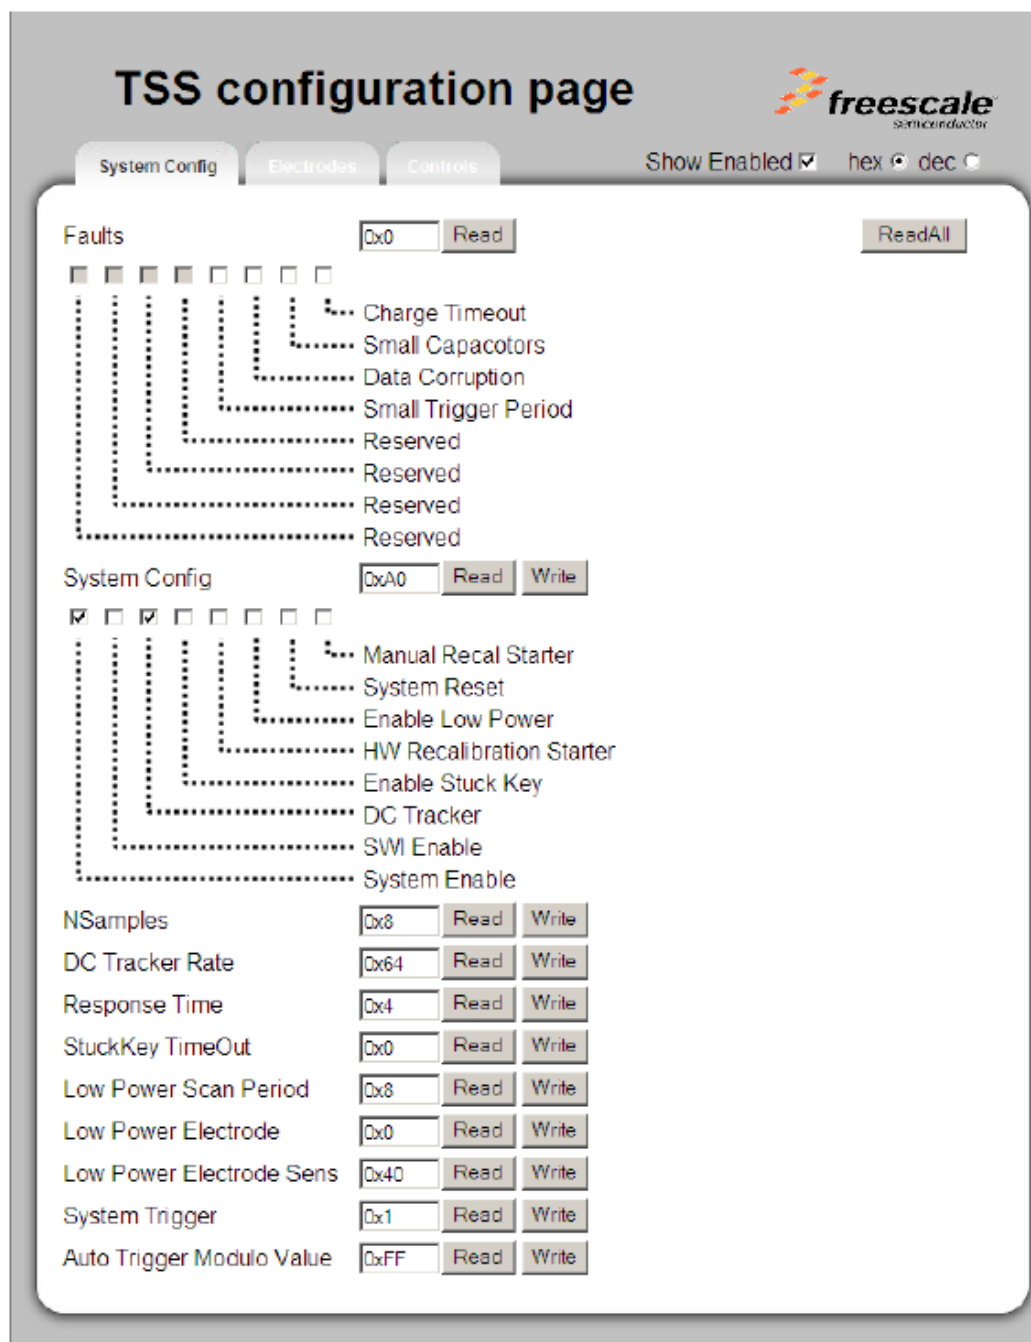
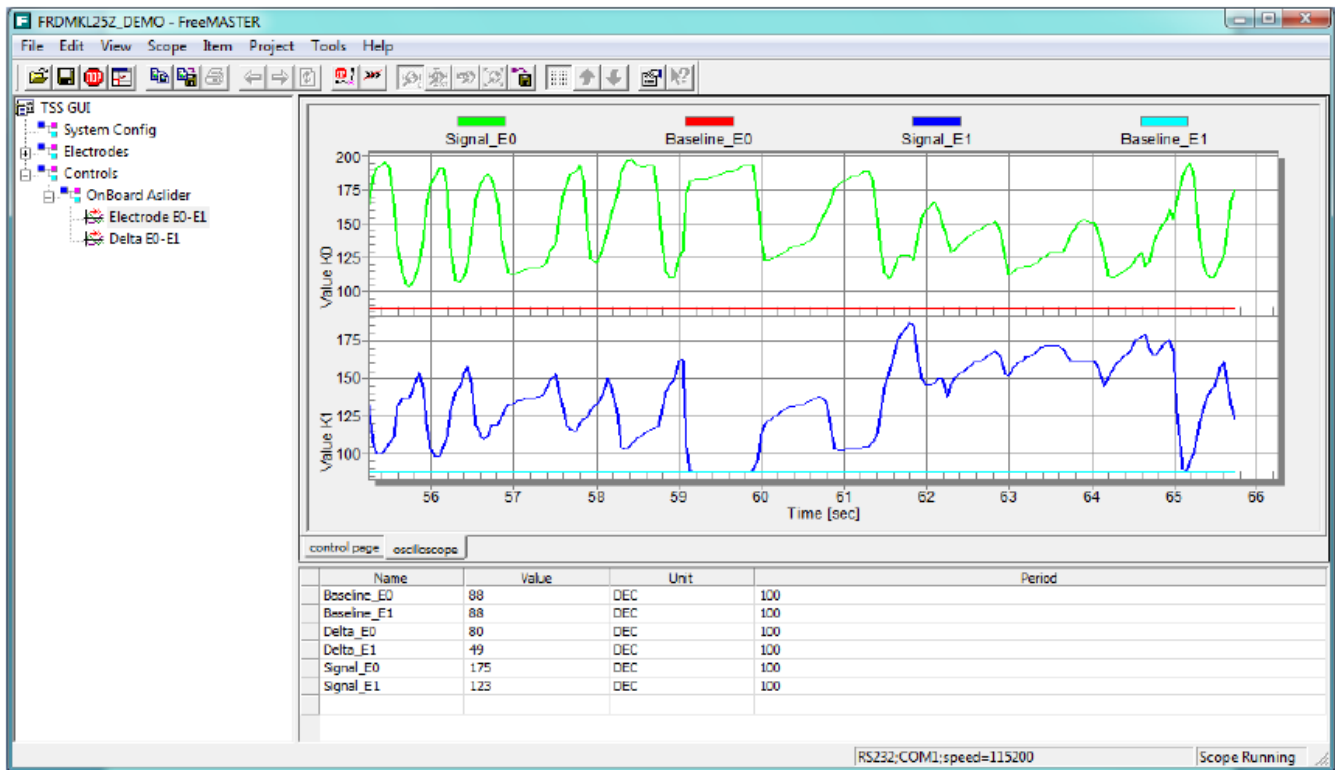

Figure 5. System configuration
Figure 8. Electrodes data curve
2. Next, choose File > Start Communication. The GUI can read the data from MCU through the serial port, and the user can check the System configurations and the electrode signal changing curve. Figure 5 shows the system configurations user sets in the code, Figure 6 shows the electrodes signal data, Figure 7 shows the control status, and Figure 8 shows the electrodes signal data curve.